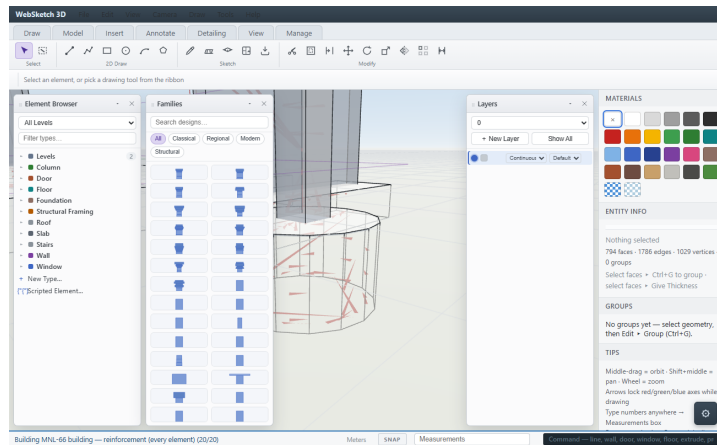

Figure 6-4 - Drilled pier: shaft ring + ties; shaft steel rises to lap the column.
- **Pier - column:** shaft steel rises through the cap into the column lap zone (Fig. 6-4).